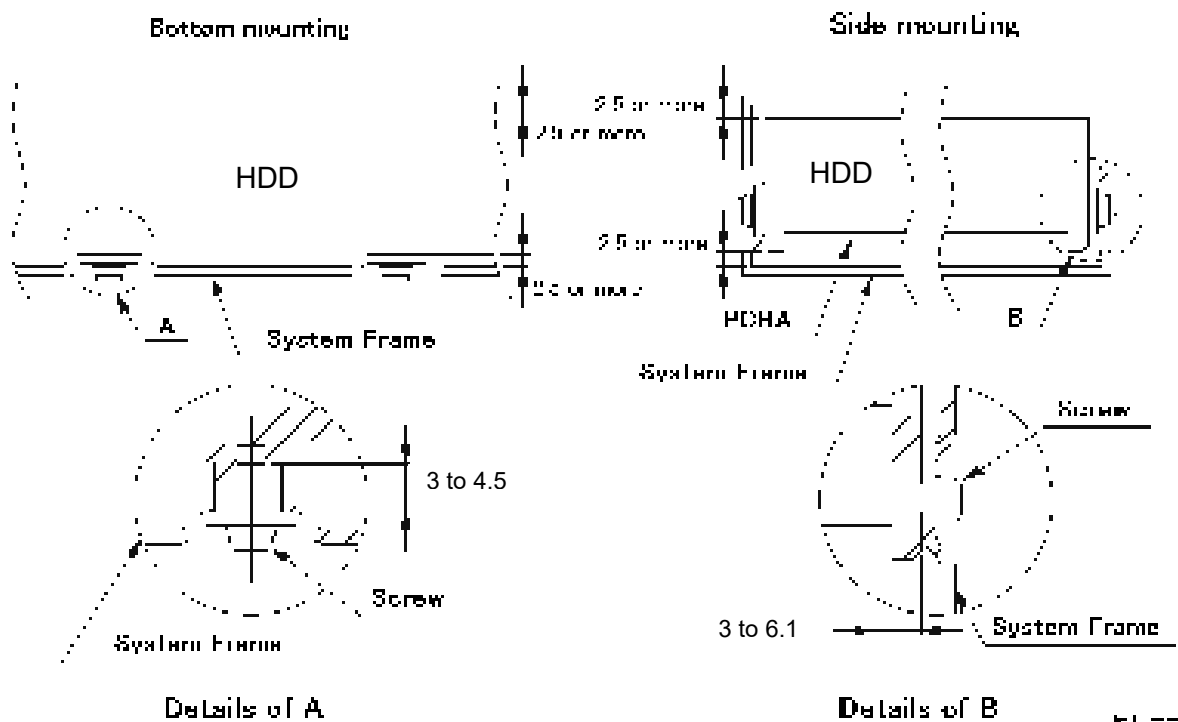

Figure 3.3 Mounting frame structure example
- The frame shall not touch the PCBA of the HDDs. For example as shown in Figure 3.3, mount the HDDs with a gap of 2.5 mm or more from the frame.
- As shown in Figure 3.3, the inward projection of the screw from the HDD frame wall at the corner must be 3 to 4.5 mm on the bottom mounting, 3 to 6.1 mm on the side mounting.